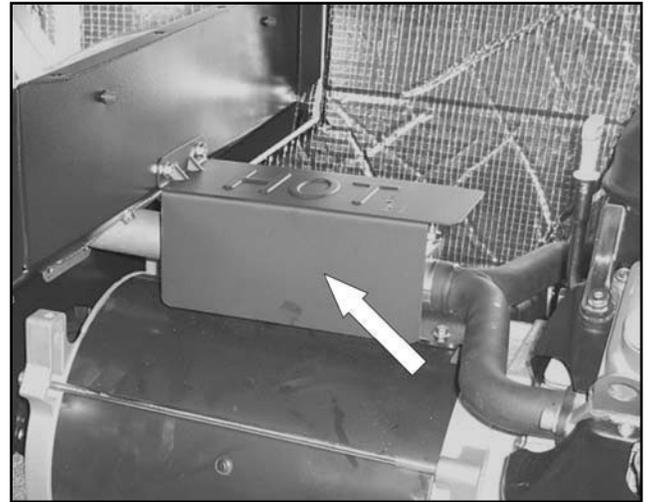

Figure 25.
3. Remove Exhaust Flex Cover: Using a 10mm socket, remove the two bolts from the exhaust flex pipe cover. Remove the cover. See Figure 25.